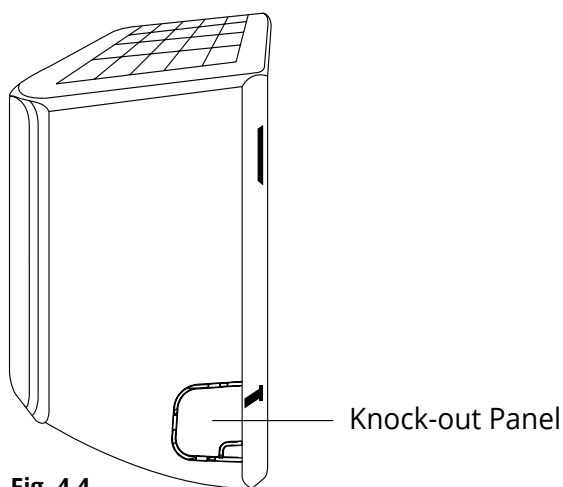

Fig. 4.4
2. If the wall hole is behind the unit, keep the knock-out panel in place. If the wall hole is to the side of the indoor unit, remove the plastic knock-out panel from that side of the unit. (See **Fig. 4.4**). This will create a slot through which your piping can exit the unit. Use needle nose pliers if the plastic panel is too difficult to remove by hand.